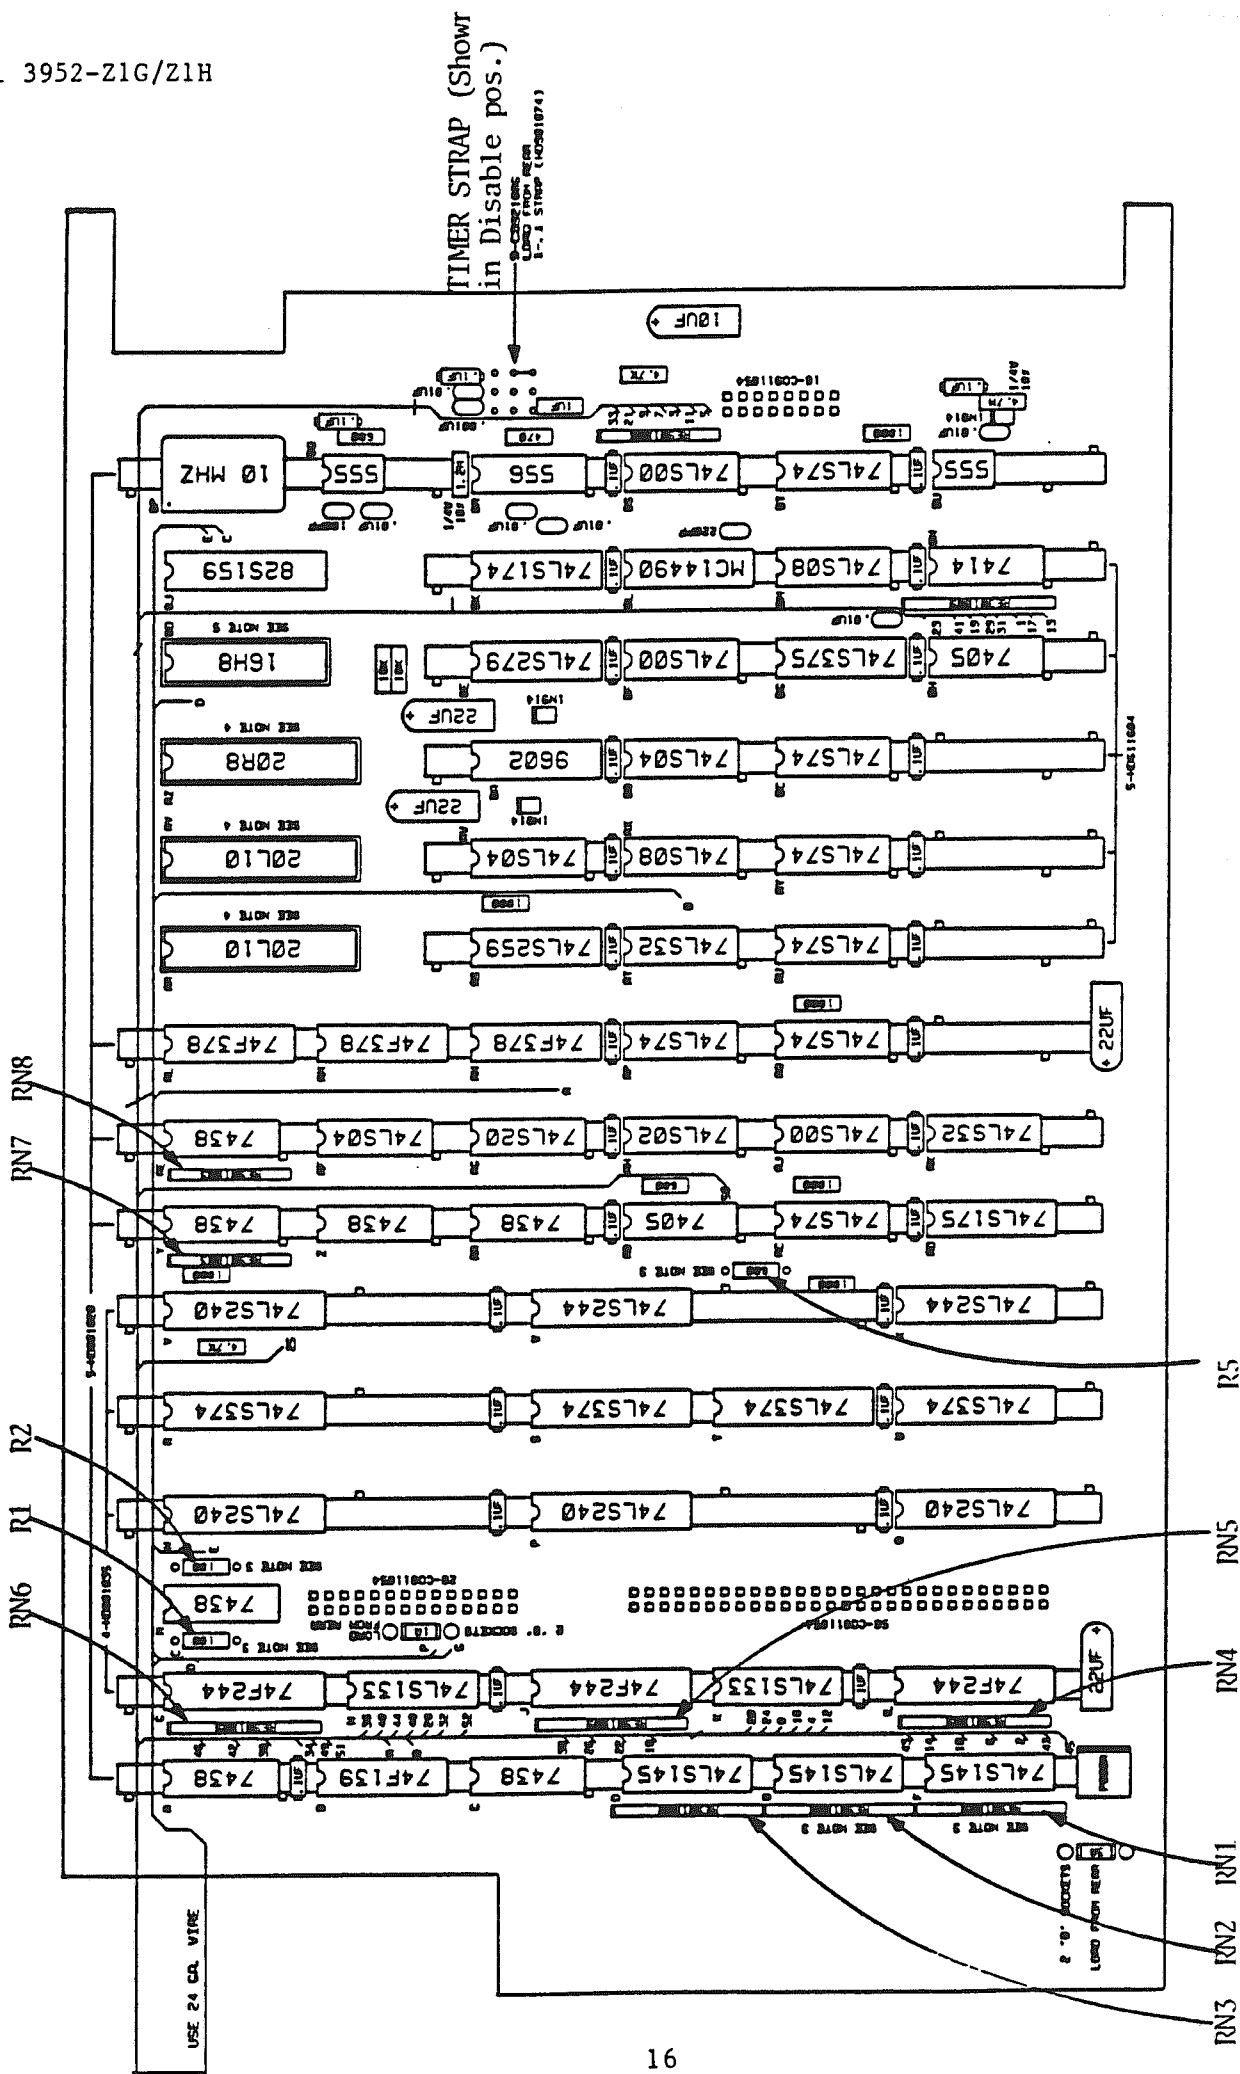

FIGURE 3
The Repeat Timer strap selector (Refer to Figure 3) is located on the solder side of the "B" (right-hand) circuit board. The module's ground shield must be removed to gain access to this strap.
4. On the "B" board remove the socketed resistor packs RN1 through RN8 and resistors R1, R2 and R5 (Refer to Figure 3 for the locations of these resistors).